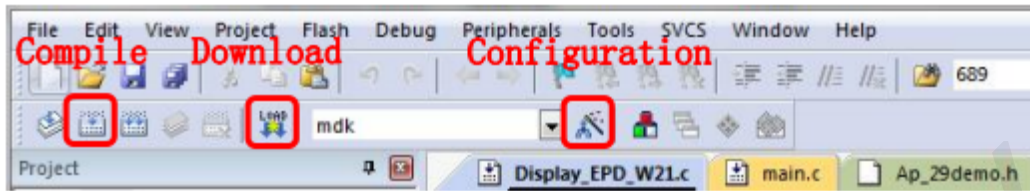
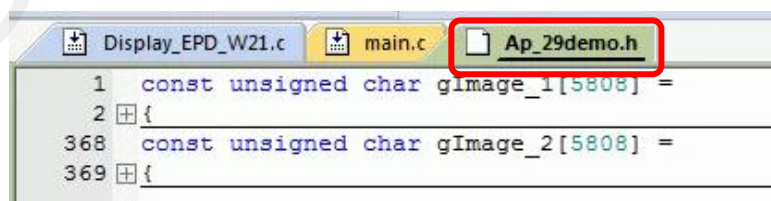

Figure 7 : Keil4 tool bar
Figure 9 :change the image data
3) The Keil4 toolbar is shown in Figure 7. Please click  at the first time using the simulator and a box like Figure 1 2 will pop up. Choose the simulator model of yours in the "Debug" bar, and click "OK to confirm.
4)Click Ap\_29demo.h in Figure 9 to change the image data that needs to be displayed(the image data needs to be achieved by image2lcd ).
5)Click  in the toolbar in Figure 7 to compile.
6)Click  in the toolbar in Figure 7 to download.
- 9) If you want to change a image, you need to use Keil4 to change the image data (Figure 9), compile it (Figure 7) to generate a new mdk.hex file, and then re-select the file to download it.